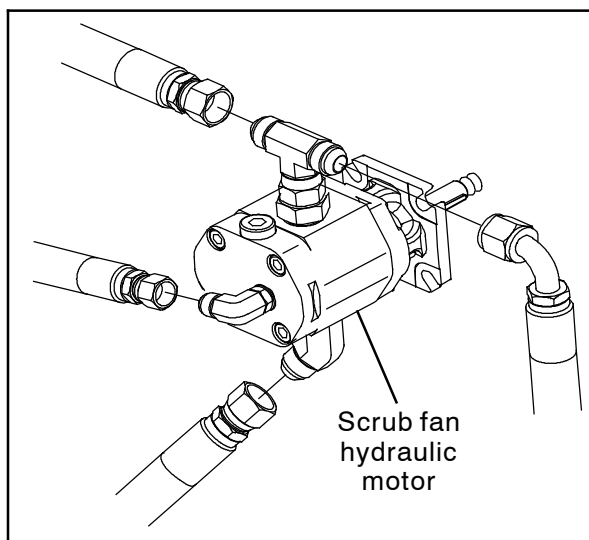

FIG. 7
6. Disconnect the four hydraulic hoses from the fittings on the scrub fan hydraulic motor. Leave fitting installed on the scrub fan motor. (Fig. 7)